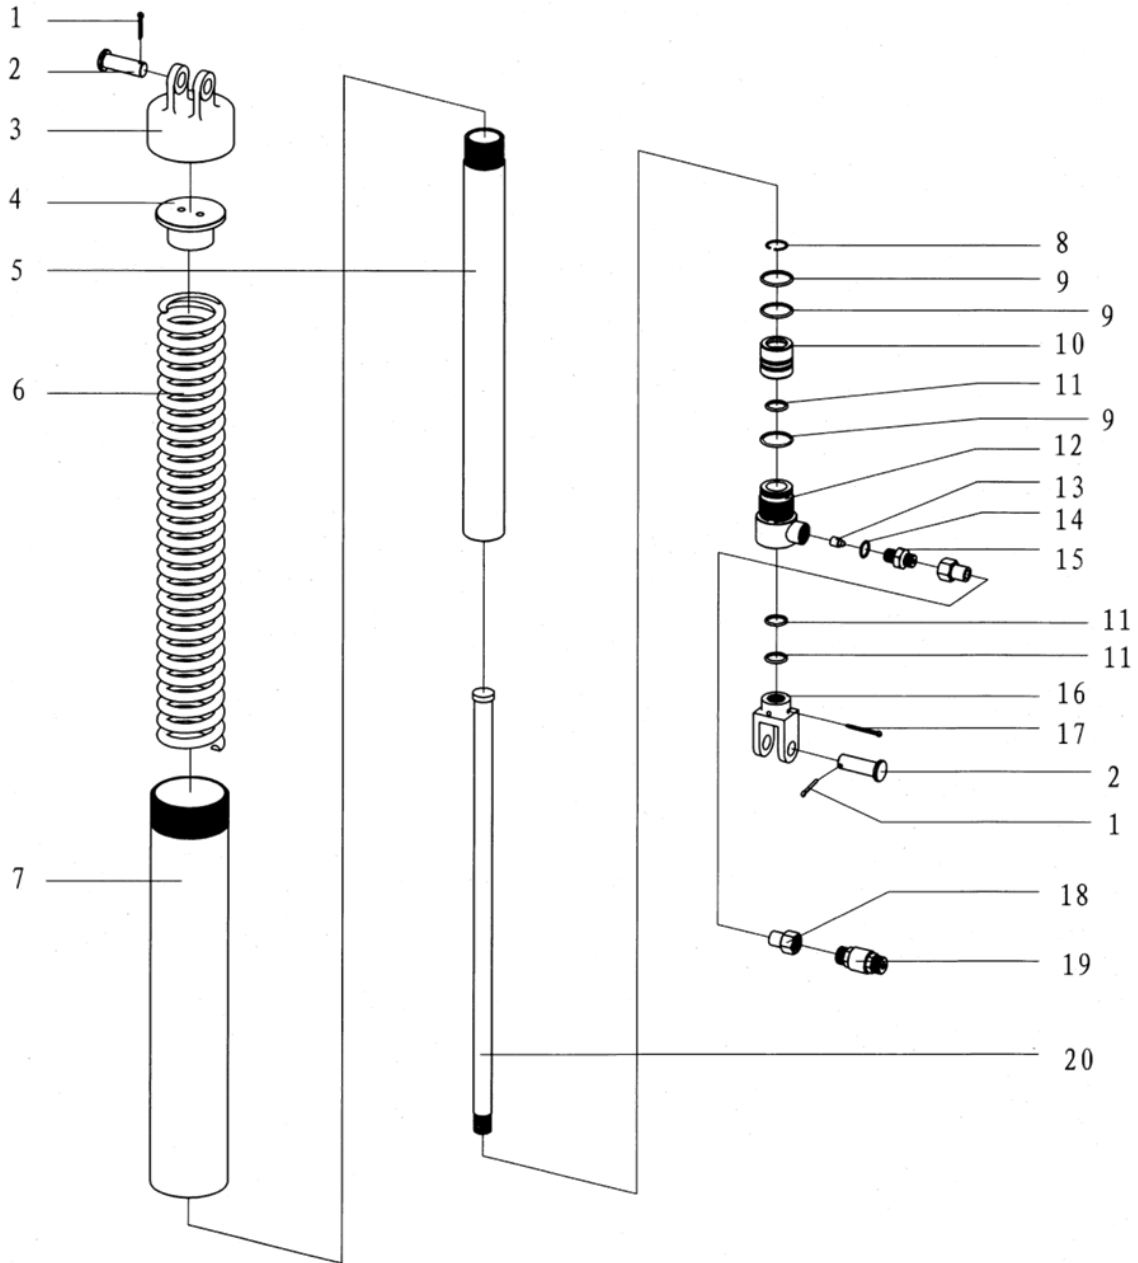

Fig 19
9.15 Hydraulic lifting bucket(Fig.19,Table 15)